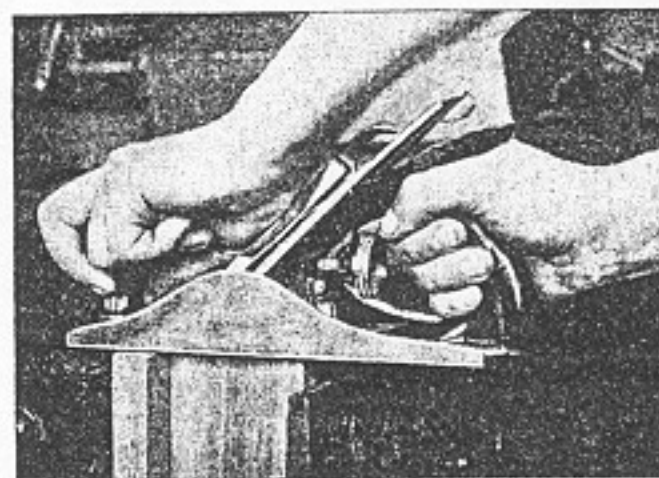

Fig. 105. Planing end of narrow board. Board placed behind it prevents splitting.
3. When the board is narrow and the right width, another board is placed behind it in the bench vise. This will prevent it from splitting while the end is planed (Fig. 105).